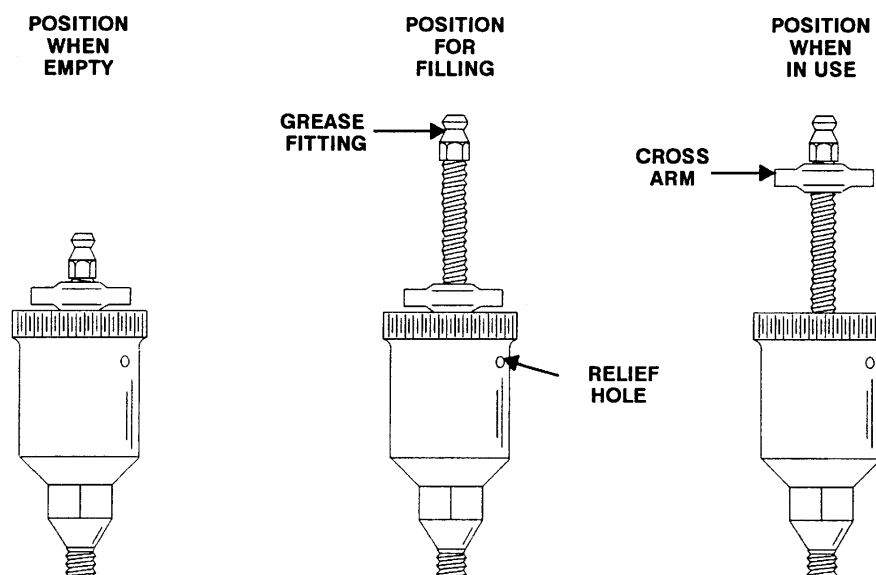

Figure 5. Automatic Lubricating Grease Cup
Before removing the impeller (2), turn the cross arm on the automatic grease cup (9) clockwise until it rests against the cover (see Figure 5). This will prevent the grease from escaping when the impeller is removed.
Fill the grease cup (9) through the grease fitting with No. 2 lithium base grease until grease escapes from the relief hole. Turn the grease cup arm counter-clockwise until it is at the top of the stem; this will release the spring to apply grease to the seal (see Figure 5).